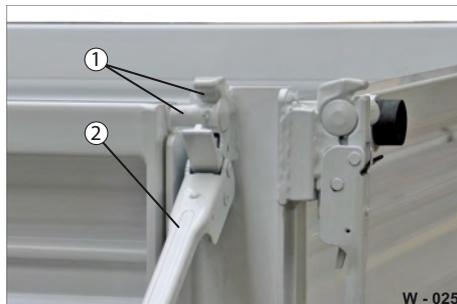

Fig. 25 Locks
- ▶ Unfasten the locks (Fig. 25/2) of the respective platform gate.
- ▶ Clean the lubrication/bearing points (Fig. 25/1) with a clean, dry cloth.